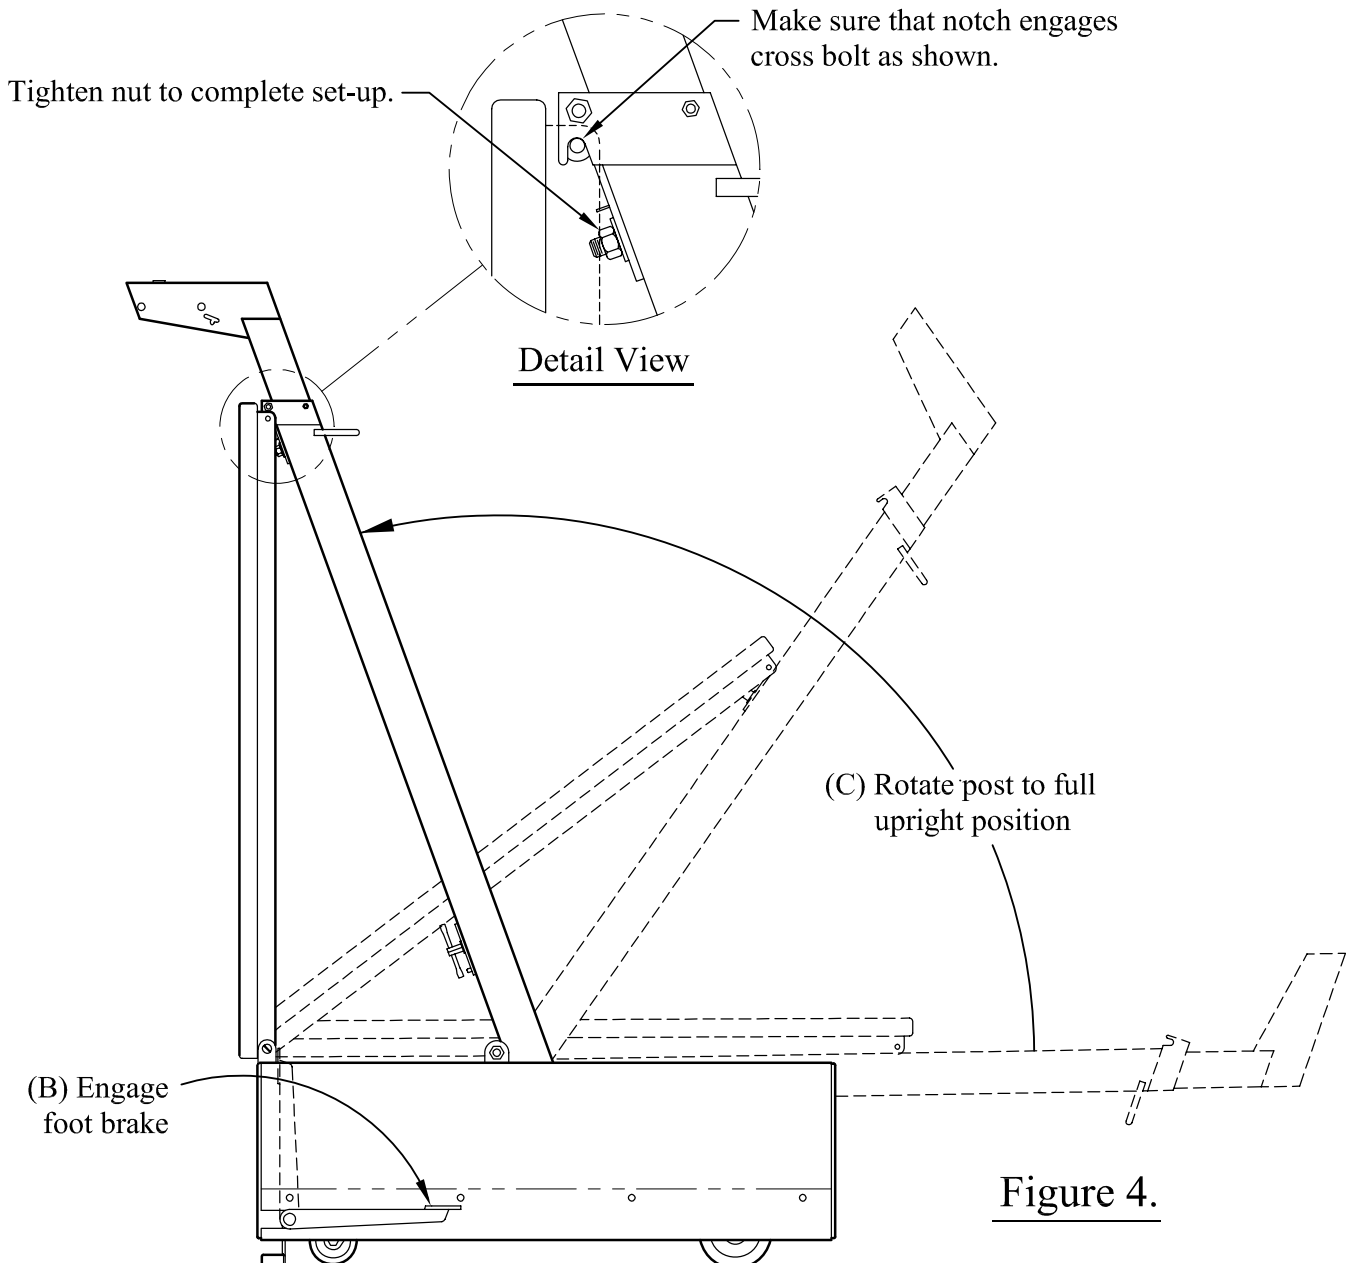

Figure 4.
- (B) Set foot brake. See fig. 4
- (C) Carefully raise main post to full vertical position as illustrated in fig. 4
- (D) See Detail View for final step in securing post.